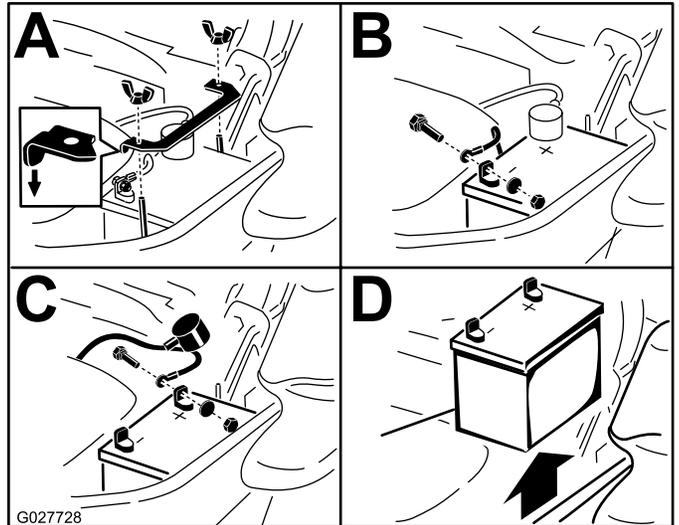

Figure 59
3. Remove the battery as shown in Figure 59.
**Note:** Position the battery in the tray with the terminal posts opposite from the hydraulic tank (Figure 59).